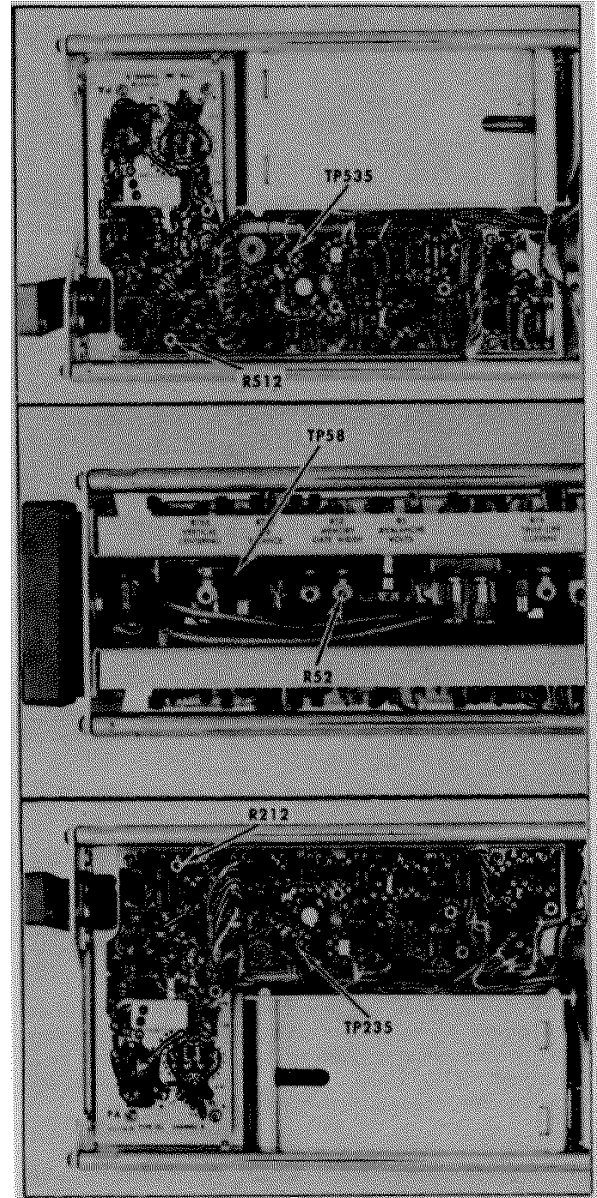

Fig. 8-17. Memory Gate Width control (R52) and test points of Step 10.
b. Adjust the Memory Gate Width control, R52 shown in Fig. 8-17, for maximum feedback loop gain.
c. To check the Memory Gate circuit output pulse, attach the test oscilloscope 10X Probe to TP58 (see Fig. 8-17).
d. If one channel operates and the other does not, a check of the Memory Gate drive signal to each Memory circuit can be made at TP235 and TP535 shown in Fig. 8-17. The signal at TP235 and TP535 is not flat at the top, but rather should appear similar to Fig. 8-18B.
c. Set the two front panel screwdriver adjust dot response controls to midrange. Then adjust the Channel A internal loop gain control, shown in Fig. 8-17, so the transition corners are as
h. Check the display corners at the ends of both the positive and negative transitions at 100 dot per division. At 10 dots per division, adjust the Channel B internal Loop Gain control, R512 shown in Fig. 8-17, for correct dot response. Check back and forth between 100 and 10 dots per division to see that the display is correct (similar to Fig. 8-16B).